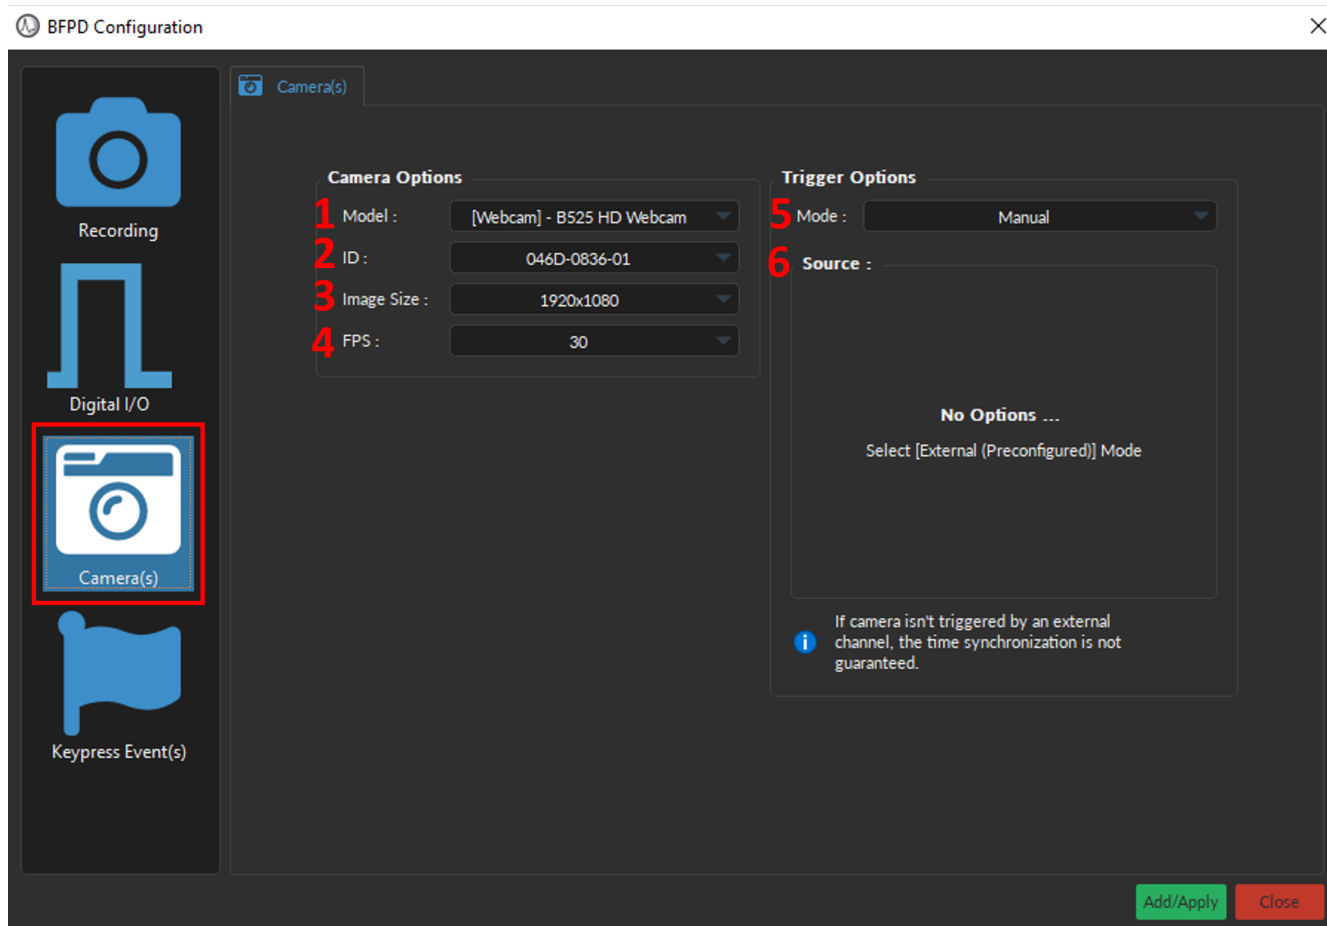
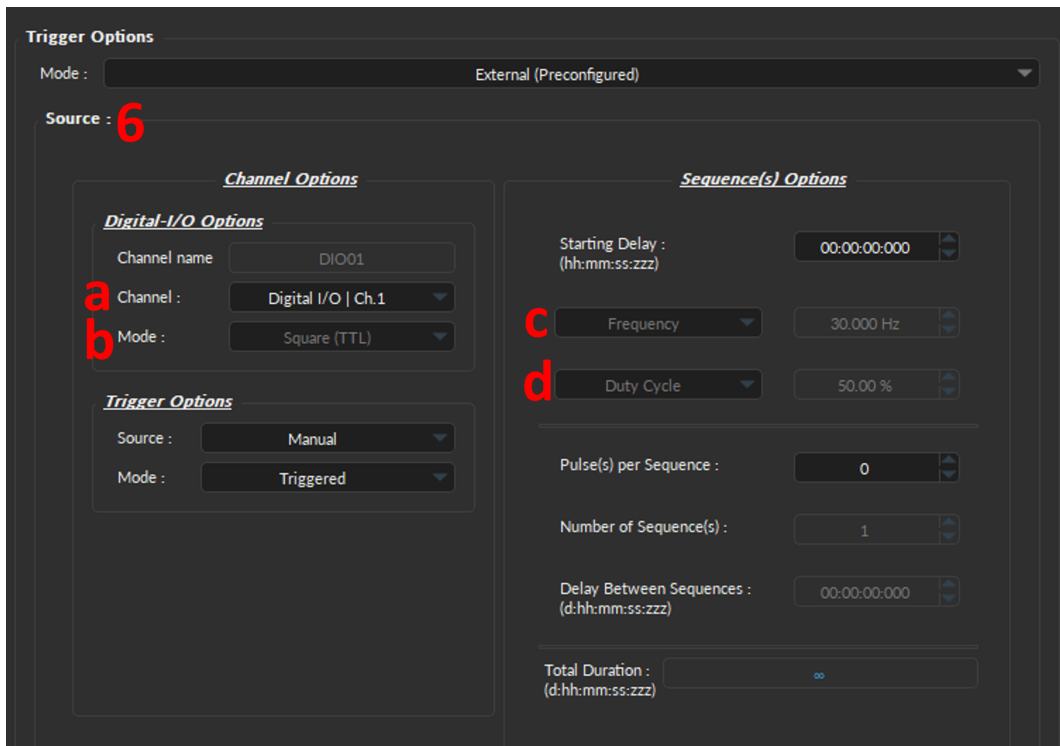

Figure 14.25: Channel(s) configuration window, Camera
Figure 14.27: Channel(s) configuration window, Camera - External (Preconfigured)
1. The **Model** (Fig. 14.25, 1) allows you to select the camera of choice based on the type of camera.
2. **ID** drop-down list (Fig. 14.25, 2) is used to select a camera based on its unique ID. The ID is beneficial when multiple cameras of the same model are required for the experiment.
3. The **Image Size** (Fig. 14.25, 3) is used to set the resolution of the image. The large the number of pixels used for width x height, the better the resolution. Currently, image size can ranges between 160x120 to 1920x1080 pixels.
4. The **FPS** (Fig. 14.25, 4) is used to specify the frame rate of the camera (i.e. the number of images displayed per second). FPS can be any value between 5 to 30 for web cameras and up to 60 FPS for the *Doric Behavior Camera*.
- The **Mode** (Fig. 14.25, 5) sets the type of trigger that will control the camera. Depending on the type of camera, at most three modes are available:
- The **Source** (Fig. 14.25, 6 & Fig. 14.27) is only used for the **External (Preconfigured)** mode, and displays the **Digital I/O** channel with the preconfigured parameters that will be created at the same time as the **Camera Channel** (Fig. 14.27). For a detailed description of each Digital I/O parameter see Section 14.4.4. Briefly, key parameters include:
- The **Channel** (Fig. 14.27, a) corresponds to the physical Digital I/O channel number on the BFPD that is connected to the trigger cable of the *Doric Behavior Camera*.
- The **Mode** (Fig. 14.27, b) is by default set to the *Square (TTL)* which provides the external trigger signal to the camera. This parameter cannot be changed.
- The **Frequency** (Fig. 14.27, c) corresponds to the **FPS** set in the **Camera Options**. Changing the **FPS** will automatically change the **Frequency** in the **Sequence(s) Options**.
- The **Duty Cycle** (Fig. 14.27, d) is by default 50%. The frame will be taken at the start of each square pulse.